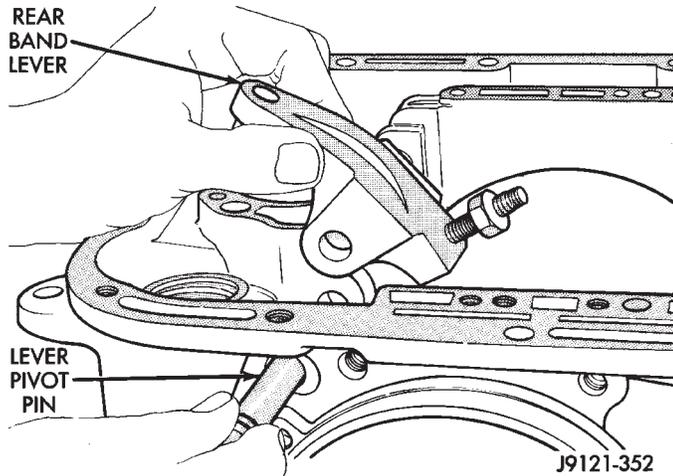

Fig. 137 Rear Band Lever And Pivot Pin Installation
(8) Install rear band lever and pivot pin (Fig. 137). Align lever with pin bores in case and push pivot pin into place.